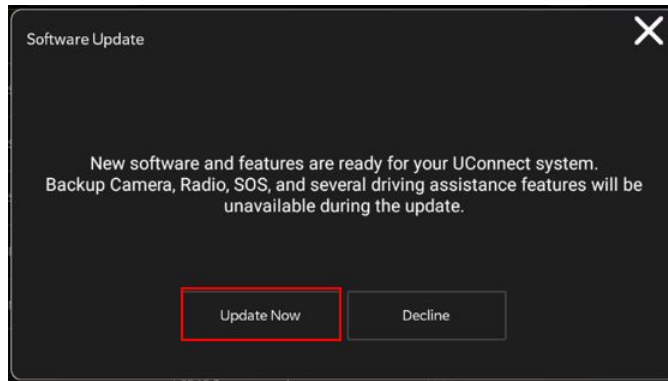

Fig. 4
17. Once the system has verified there is an available update, press the “**Update Now**” button. Make sure the vehicle is in park. **Do NOT turn the ignition off until the two minute timer has expired. The ignition doesn't have to be turned off to update the radio's software Fig 4.**